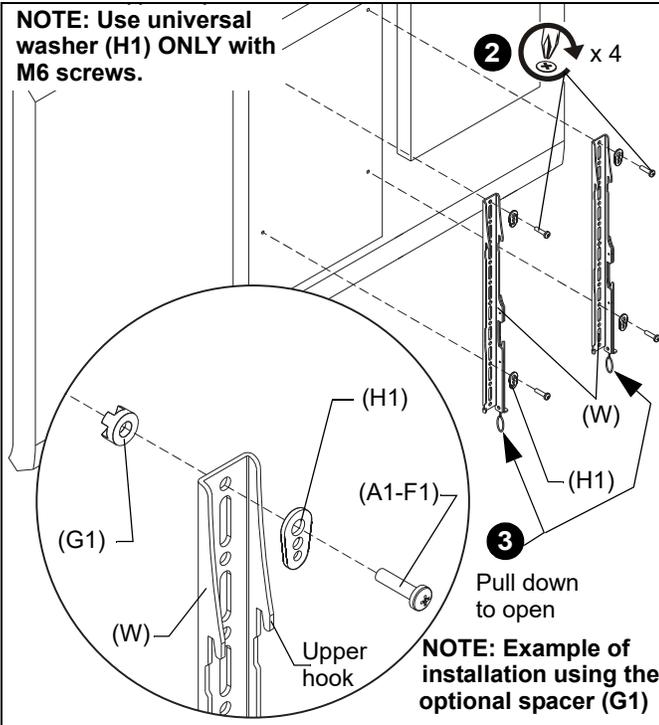

Figure 15
2. Attach interface brackets (W) to flat panel using selected hardware. (See Figure 15)
3. Pull down on interface bracket handles to open for attaching to OB1U. (See Figure 15)